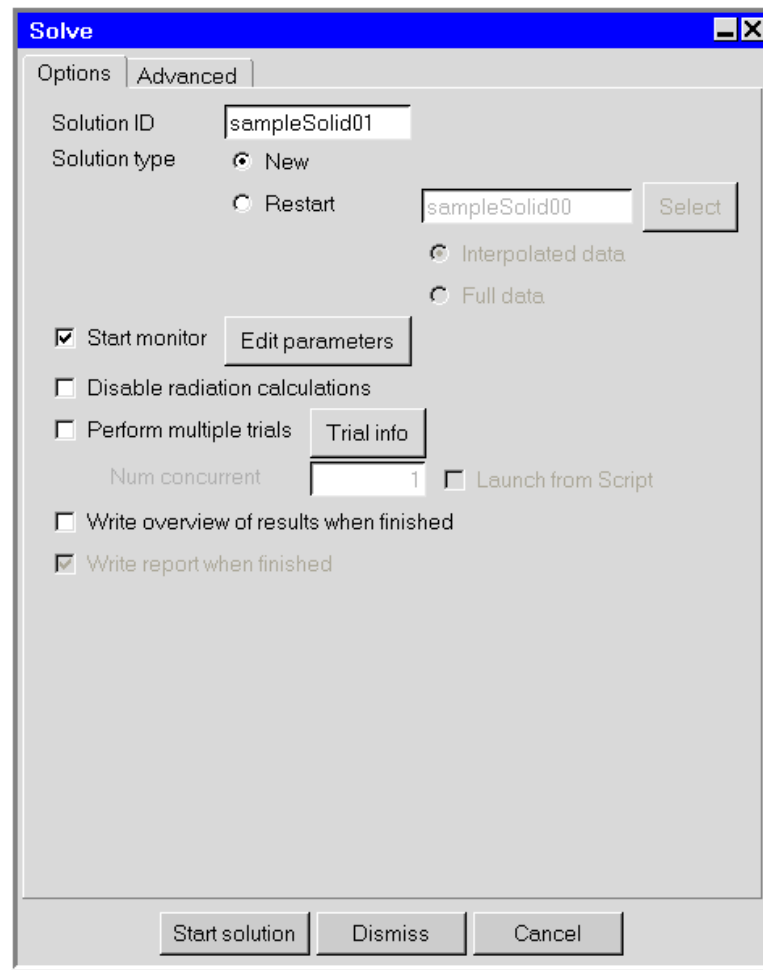

Figure 27.11.1: The Solve Panel (Options Tab)
The Solve panel (Figures 27.11.1 and 27.11.2) allows you to specify the controls for the solution. To open the Solve panel, select Run solution in the Solve menu or click on the  button in the Model and solve toolbar.
3. Enable the appropriate basic solution control options in the **Options** tab of the **Solve** panel (Figure 27.11.1). The following options are available: